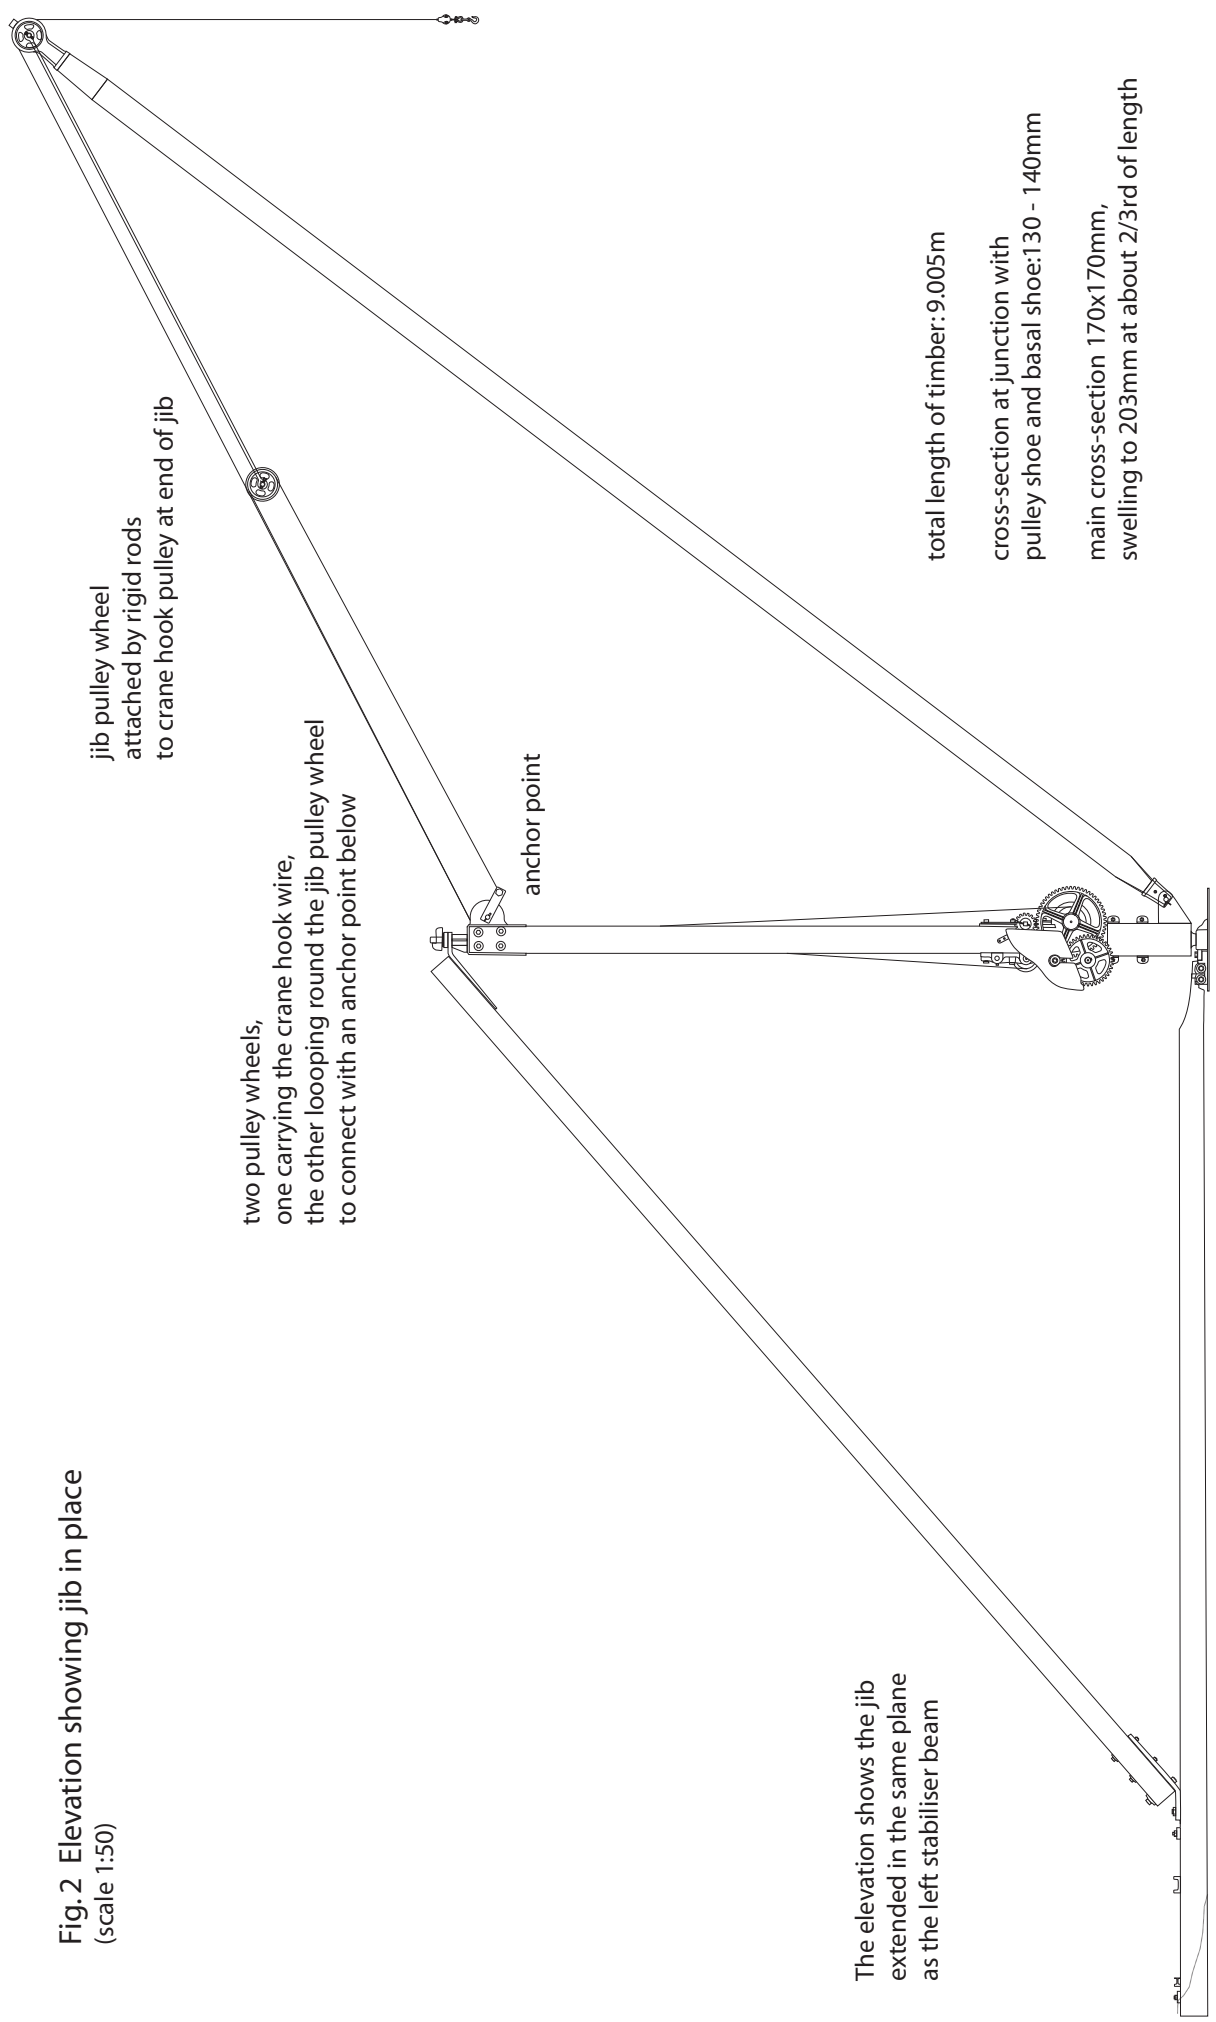

Fig.3 Elevations
- Fig. 3 Elevations, front and left side (scale 1:20)